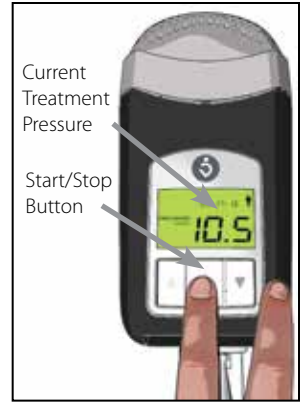

Figure 10
1. Press the **Start/Stop Button** on the **Z1** to initiate treatment using the pre-programmed prescription setting. The Treatment Pressure Display will show the actual pressure being delivered at all times. If the Ramp Mode has been programmed, the ramp start pressure will be displayed upon pressing the **Start/Stop Button** and the indicated pressure will rise as the **Z1** ramps up to the prescribed treatment pressure. If the incorrect pressure is displayed, contact your healthcare provider before commencing treatment. (Figure 10)